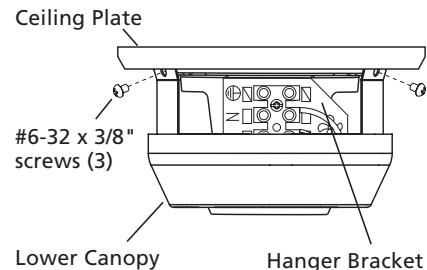

Figure 6a - Attaching Lower Canopy and Hanger Bracket to Ceiling Plate
2. Raise the lower canopy up over the hanger bracket and align the three holes in the lower canopy with the three holes in the ceiling plate and the three threaded screw holes on the hanger bracket as shown in Figure 6a. You may need to slightly spread the tabs on the lower canopy to align them with the holes on the ceiling plate and hanger bracket.